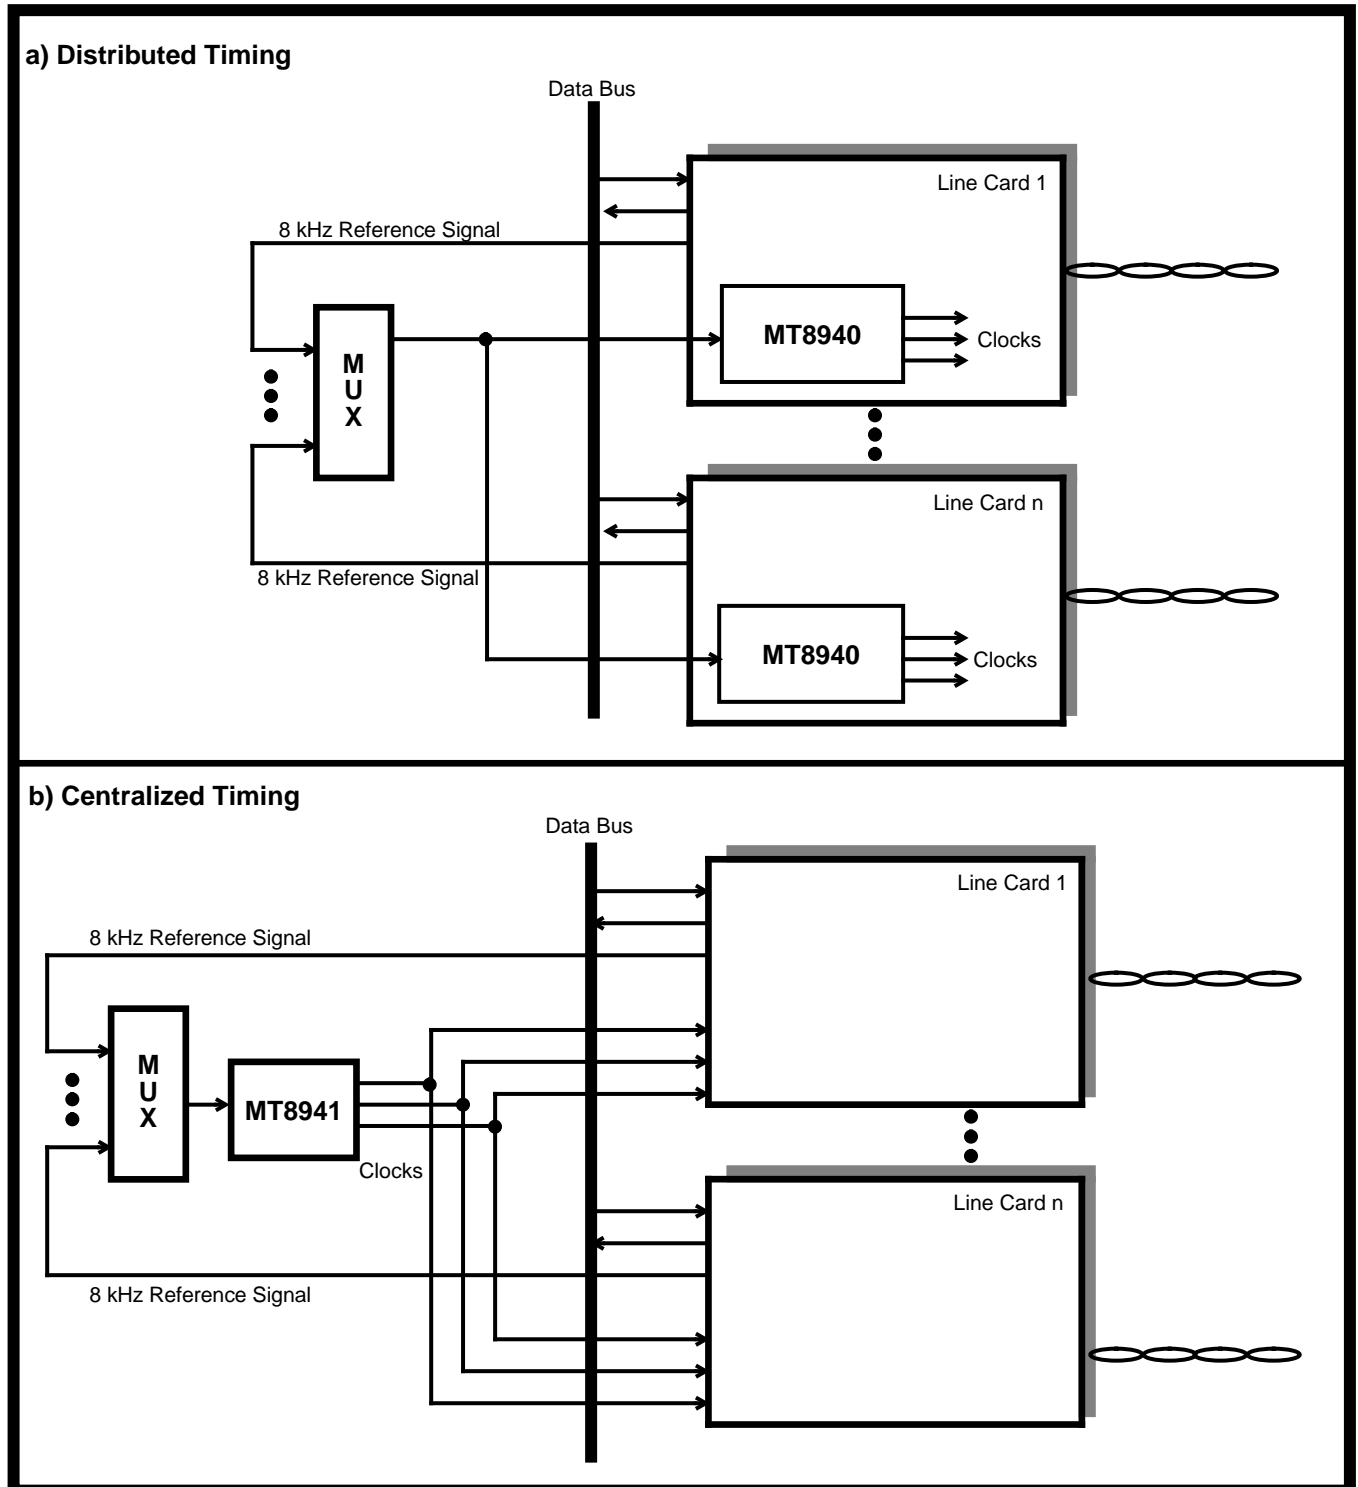

Figure 8 - Application Differences between the MT8940 and MT8941
2. The MT8941 includes a no-correction window to filter out low frequency jitter and wander as illustrated in Figure 4. Consequently, there is no constant phase relationship between reference signal $\overline{F0i}$ of DPLL # 1 or C8Kb of DPLL #2 and the output clocks of DPLL #1 or DPLL #2. Figure 4 shows the new phase relationship between C8Kb and the DPLL #2 output clocks. Figure 8 illustrates an application where the MT8941 cannot replace the MT8940 and suggests an alternative solution.